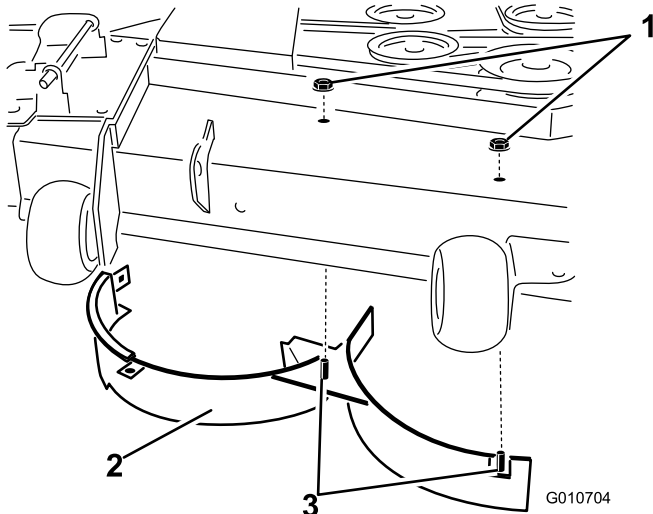

Figure 33
11. Remove the two lock nuts (5/16 inch) to securing the welded posts of the right baffle to the top of the mower deck at center and right of center positions (Figure 33). Remove the right baffle from the mower deck.